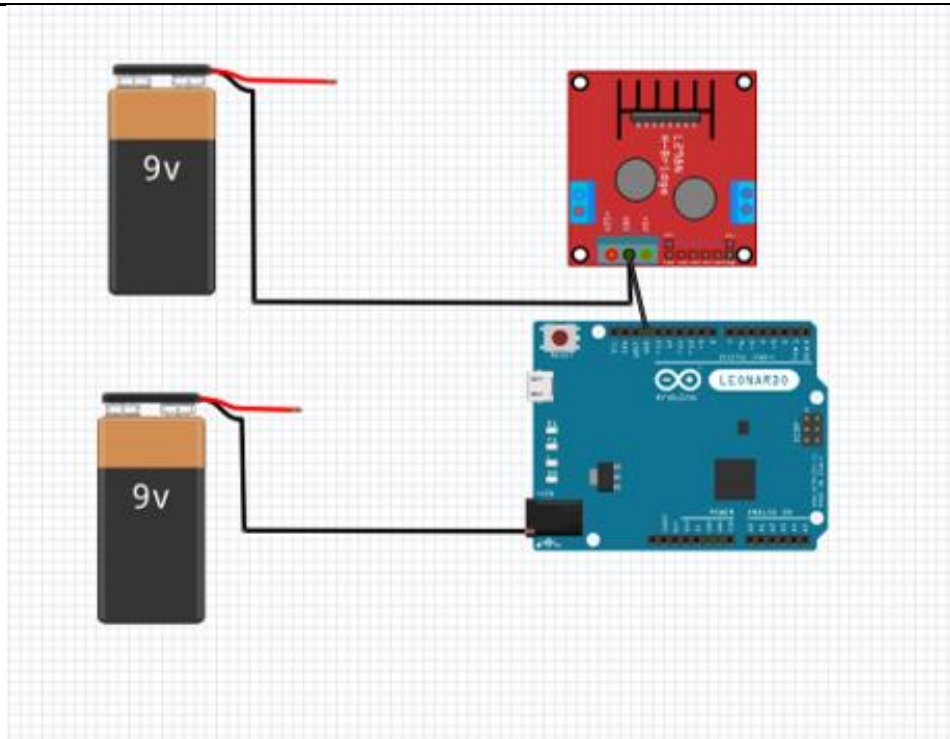

Figure 0.4 Simulation diagram with a DPST switch
- Add a DPST switch to your circuit. Draw the positive wires and the switch into Figure 0.4. Use the symbol of a DPST switch shown in Figure 0..